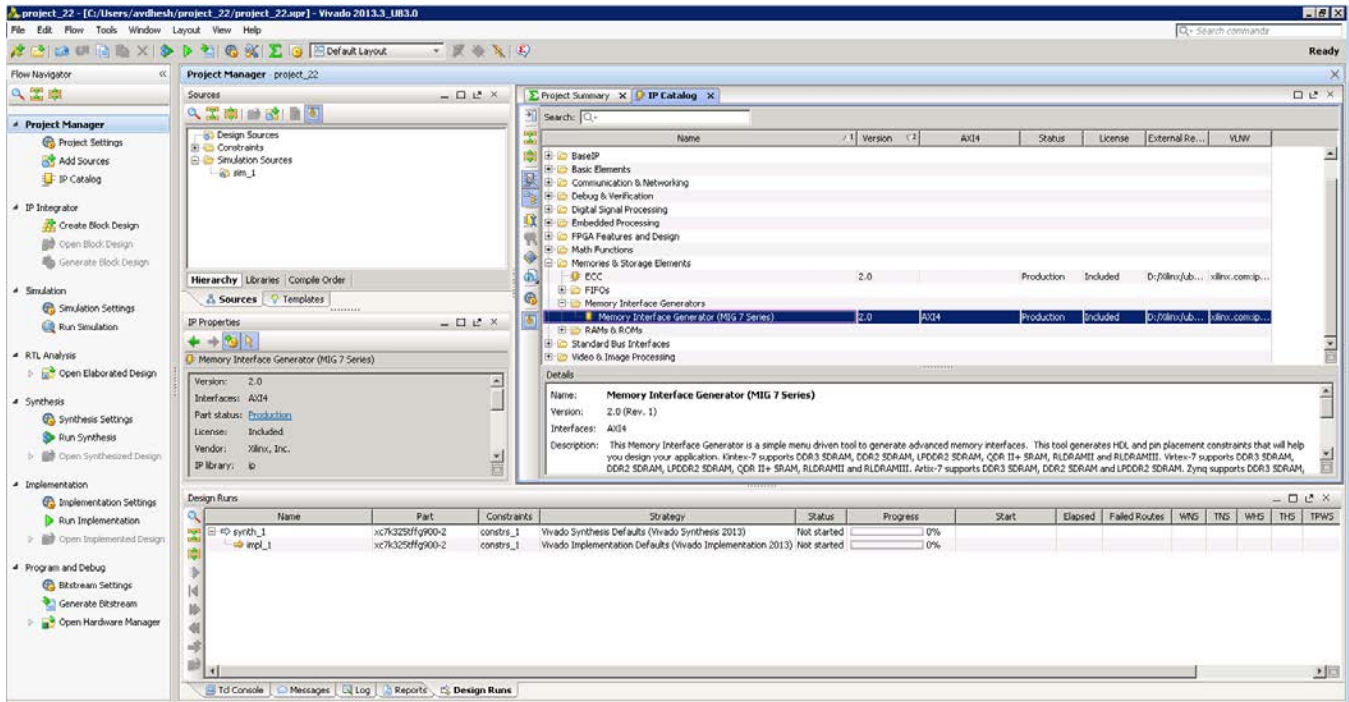

Figure 5-12: IP Catalog Window – Memory Interface Generator
11. Click **IP Catalog** on the Project Manager window to open the IP catalog window. The Vivado IP catalog window appears on the right side panel (see Figure 5-12, highlighted in a red circle).
12. The MIG tool exists in the **Memories & Storage Elements > Memory Interface Generators** section of the IP catalog window (Figure 5-12) or you can search from the Search tool bar for the string "MIG."